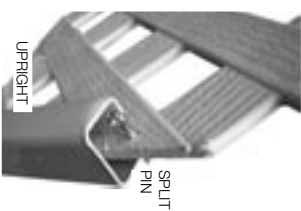

Fig. 8
9. Insert the lattice panel with the top fence extension rail on it from above into both uprights and slide down until the moulded corners in the top C-Channel are against the uprights, then gently tap the corners into the tops of the uprights. Ensure that the tabs on the lattice and the split pin are captured inside the uprights as shown in Fig. 8 and that the bottom edge of the lattice fits into the bottom rail of the fence extension.